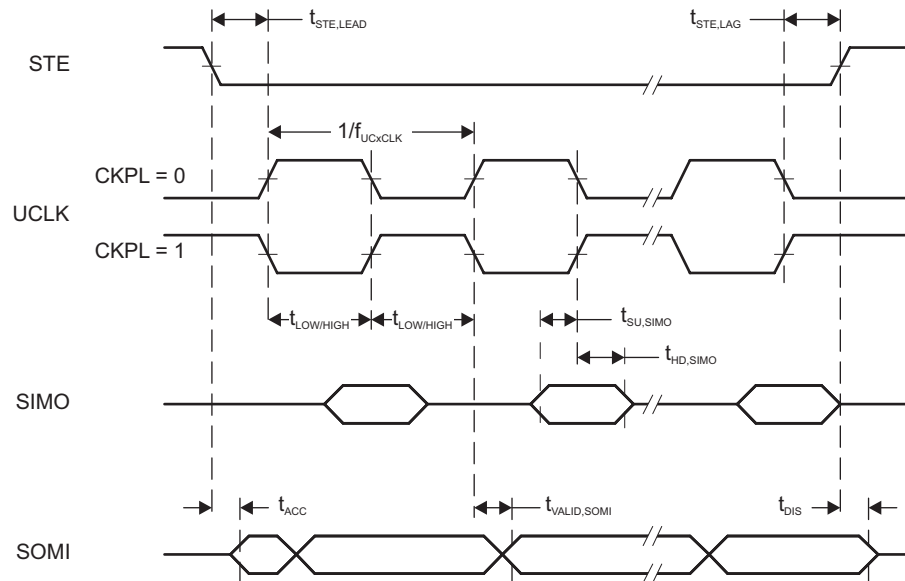

Figure 5-25. SPI Slave Mode, CKPH = 0
over recommended ranges of supply voltage and operating free-air temperature (unless otherwise noted)(1) (see Figure 5-25 and Figure 5-26)
(2) Specifies the time to drive the next valid data to the SOMI output after the output changing UCLK clock edge. See the timing diagrams in Figure 5-25 and Figure 5-26.
(3) Specifies how long data on the SOMI output is valid after the output changing UCLK clock edge. See the timing diagrams in Figure 5-25 and Figure 5-26.